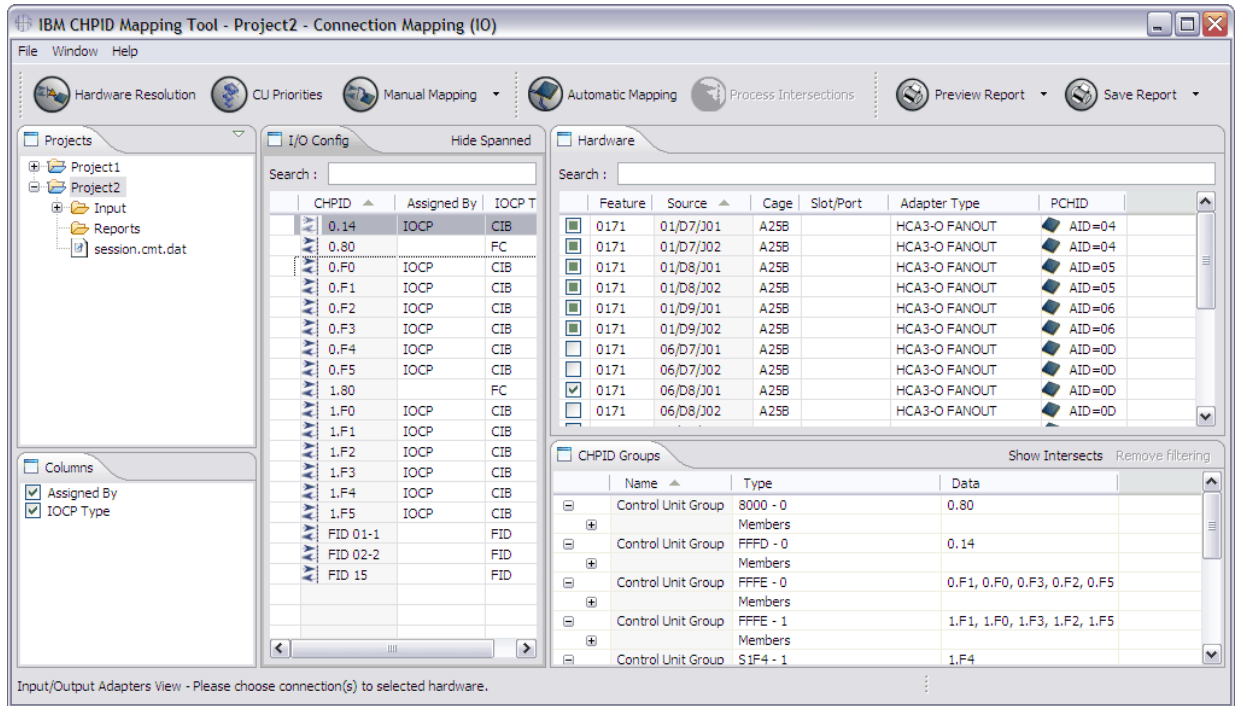

Figure 94. Manual Mapping view in I/O Config > Hardware format
1. If you have not already done so, open the Manual Mapping view in the I/O Config > Hardware format. Figure 94 on page 77 shows this.